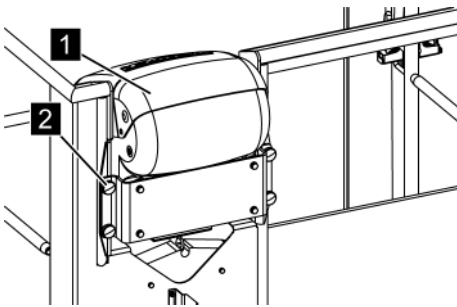

Fig. 113: Mounting the control panel
9. ➔ *Insert the control panel (Fig. 113/1) and bolt using the knurled thumb screws (Fig. 113/2).*